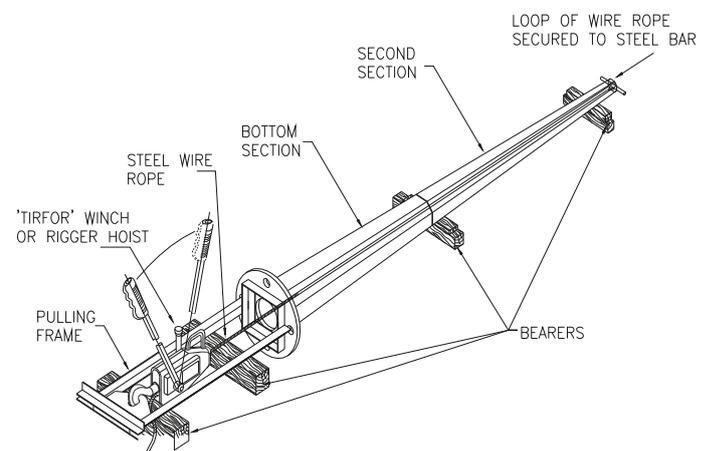

Figure 4
1. Assemble the tirfor and the frame at the base of the bottom section. Feed the cable through the centre looping it at the top end of the adjoining section around a rigid bar bearing on the section (Figure 4). Ensure that the bearing of the bar will not damage (buckle locally) the top of the section during winching (e.g. use timber packers). Also use timber packers at the bottom if there is no flange base (e.g. ground planted column).